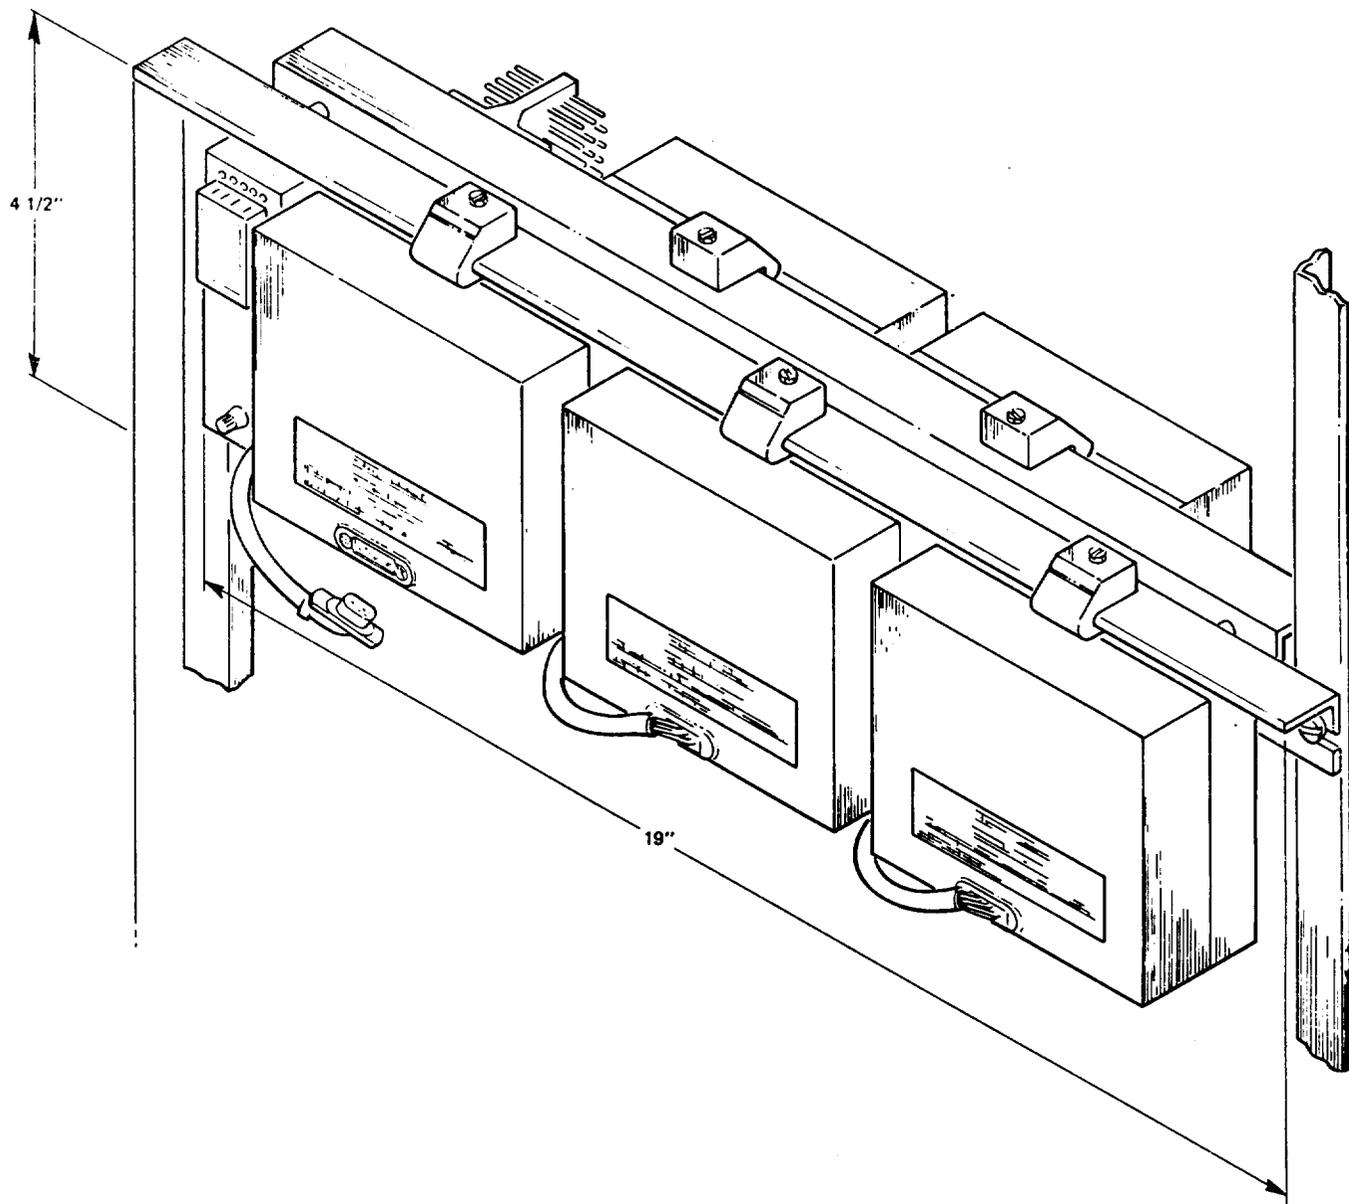

Figure 2. Mounting Frame Assembly
2.04 When used in non-Strowger offices or on installations where angle iron mounting is restricted a converter mounting frame assembly, 100339, can be used which accommodates five TonePulse Converters. A 24 point terminal block is included with this frame assembly for the purpose of interconnecting the TonePulse Converter between the linefinder and the forward equipment. The frame assembly is designed for 19" relay-rack mounting and contains its own fusing (1 amp per Converter). An alarm lead is also located on the terminal block. (Figure 2)